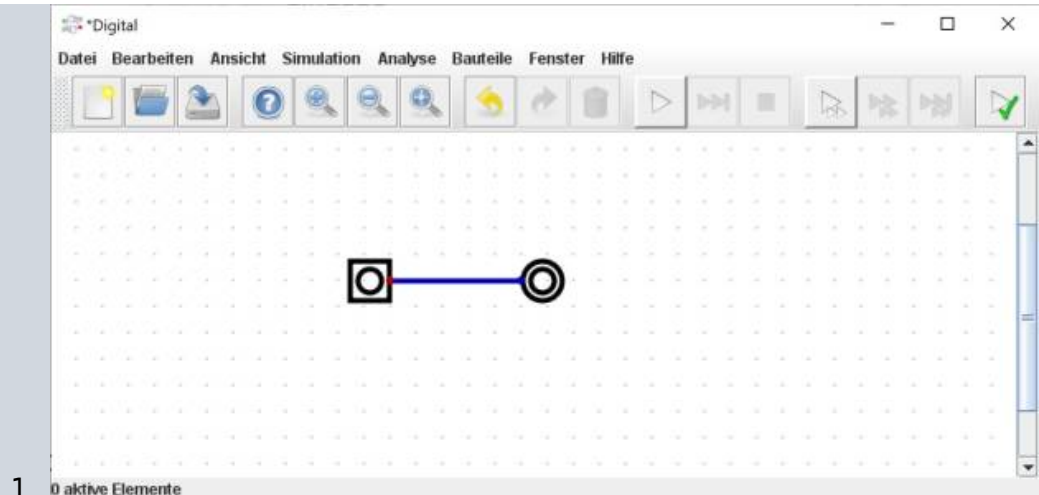

Fig. 2: Eingang und Ausgang verbunden
5. With this, the first simple circuit is already created (see figure 2). The circuit can be activated by pressing the start icon ►. If you have forgotten the connection or if there is another error, an error message appears. After confirming this error, the faulty component is highlighted in red.